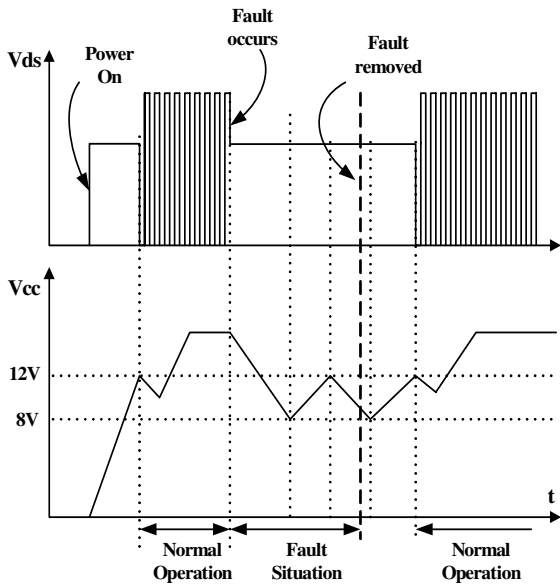

Figure 19. Auto Restart Operation
3. Protection Circuit: The FSCM0565R has several self protective functions such as over load protection (OLP), over voltage protection (OVP) and thermal shutdown (TSD). Because these protection circuits are fully integrated into the IC without external components, the reliability can be improved without increasing cost. Once the fault condition occurs, switching is terminated and the SenseFET remains off. This causes Vcc to fall. When Vcc reaches the UVLO stop voltage of 8V, the current consumed by the FSCM0565R decreases to the startup current (typically 25uA) and the current supplied from the DC link charges the external capacitor (C_a) that is connected to the Vcc pin. When Vcc reaches the start voltage of 12V, the FSCM0565R resumes its normal operation. In this manner, the auto-restart can alternately enable and disable the switching of the power SenseFET until the fault condition is eliminated (see Figure 19).